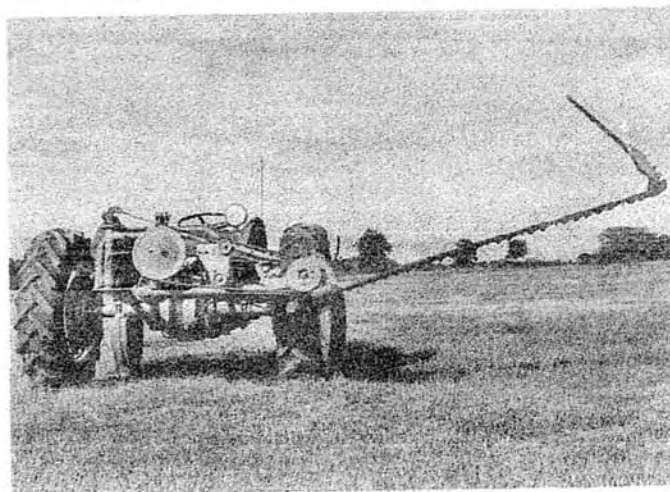

Fig. 41 - Field Transport Position
1. Raise the mower to the field transport position (illustrated Fig. 41).
from one fairly open part of a field to another, or for finishing a field, it is unnecessary to raise the cutter bar to the vertical position. This position is illustrated in Fig. 41.